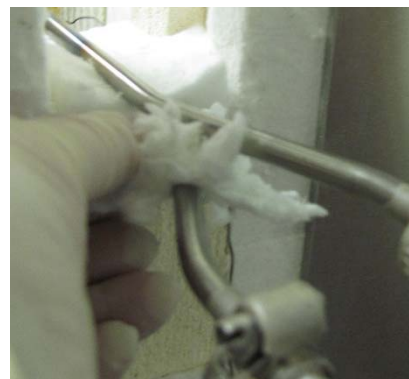

Figure 21
14. Place a small amount of flexible insulation between the anode tubes and cathode tubes of the manifold in order to prevent the tubes from touching and isolate them electrically. (Figure 21).